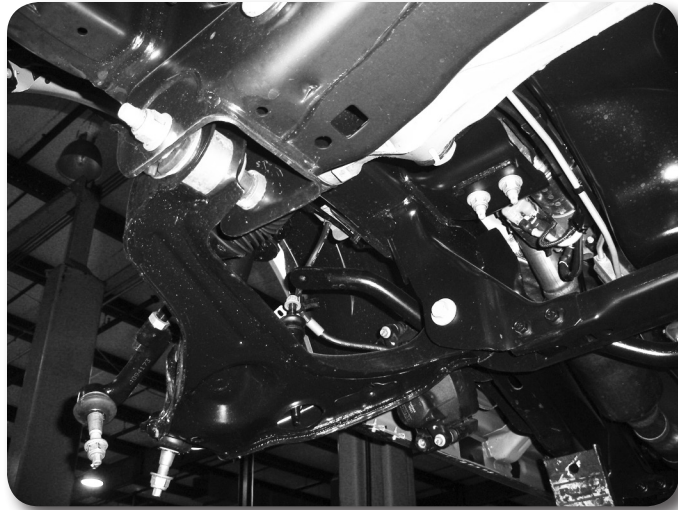

Figure 6
15. Remove the lower control arm mounting bolts **Figure 6** and remove the lower control arms from the vehicle. Save hardware.